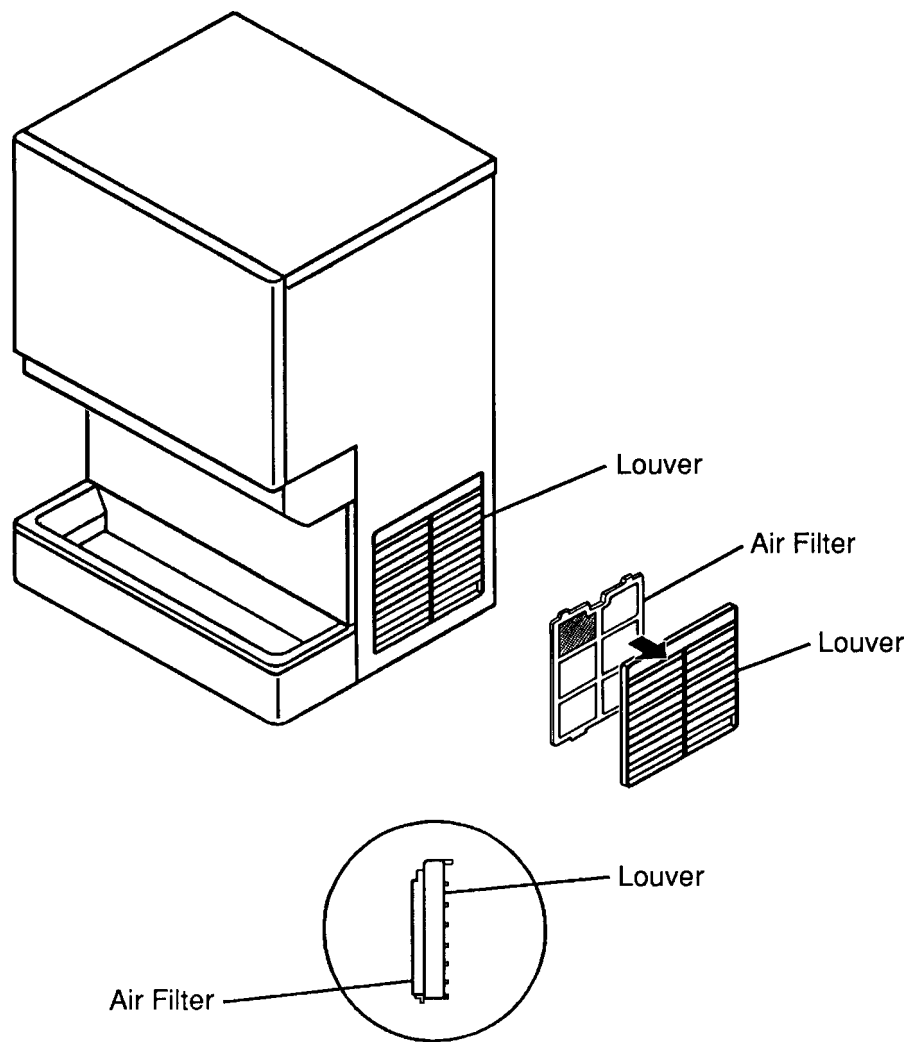

Fig. 13
3) Air Filter (Air-cooled model only) - See Fig. 13